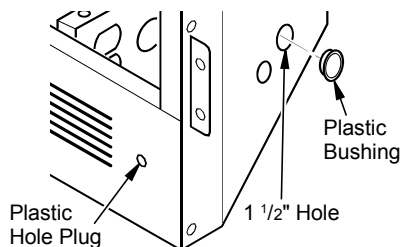

Figure 10 - Installing Plastic Bushing for Power Cord
7. Locate the plastic hole plug installed in the 3/8" diameter opening in the lower right side of the firebox front panel (see Figure 10). Remove the plastic plug and discard.
- a. **If your firebox is installed as a free-standing unit with an accessory mantel,** determine whether the power cord will exit the left side or the right side of the firebox. Install 1 plastic bushing provided into the 1 1/2" hole in the floor support on the exit side. Install the second plastic bushing provided into the 1 1/2" hole in the outer casing through which the power cord will exit (see Figures 10 and 12). Route power cord through both plastic bushings and plug the power cord into a wall receptacle near the firebox.